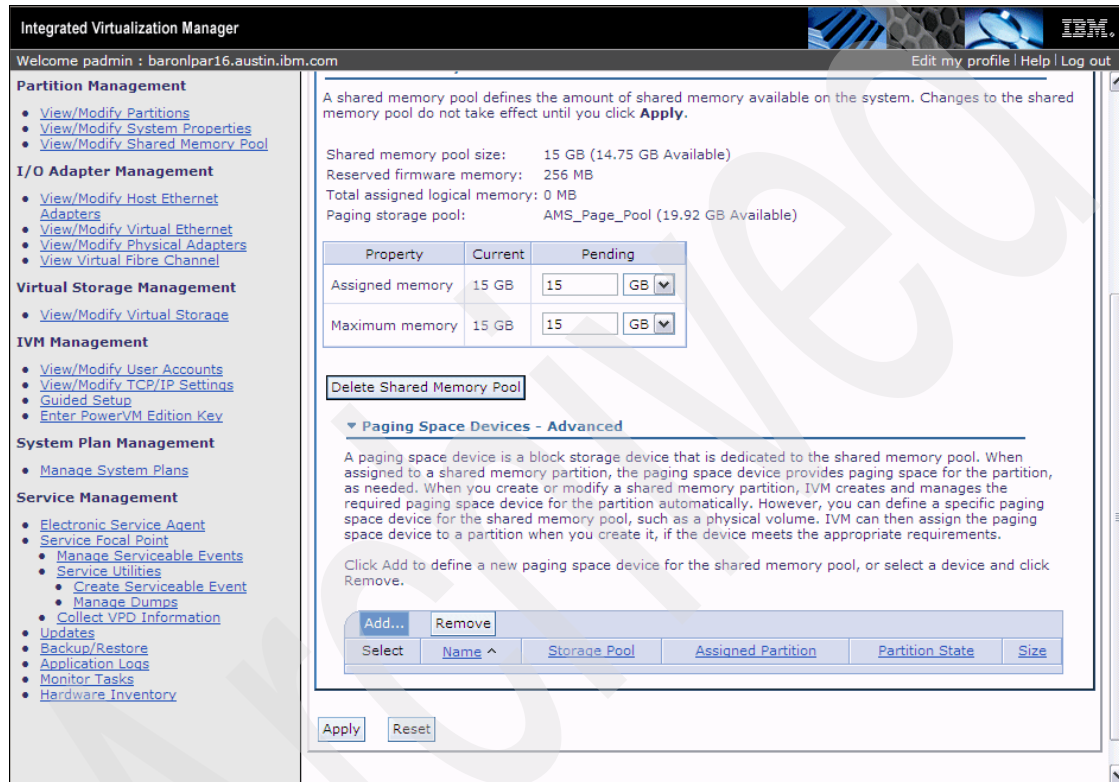

Figure 5-9 Creating dedicated paging devices for LPARS using shared memory
2. Click **Paging Space Devices - Advanced** to expand the section, as shown in Figure 5-9.